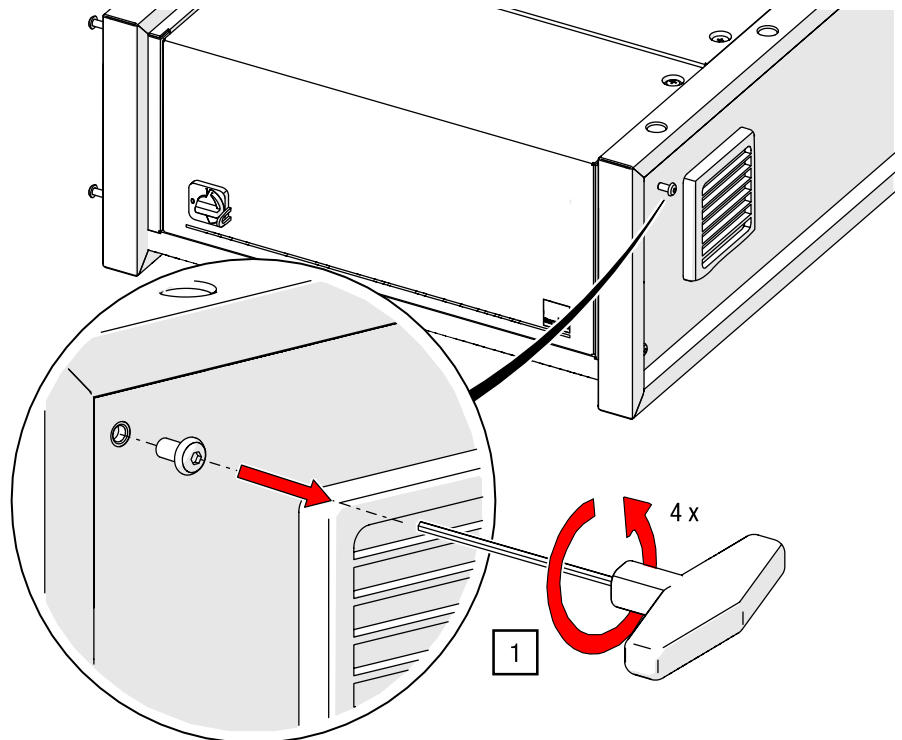

Fig. 93: G-FRAME control unit – Loosen screws for mounting brackets (control unit model may vary)
1. Loosen the four socket head cap screws pre-assembled on both sides in the front area of the housing with the Allen key AF 4 (see Fig. 93).